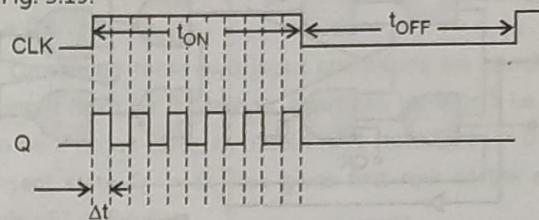

Fig. 3.19 : Timing diagram showing race around condition
- At the end of the clock pulse the output Q is uncertain and this situation is known as race around condition. It is shown in Fig. 3.19.